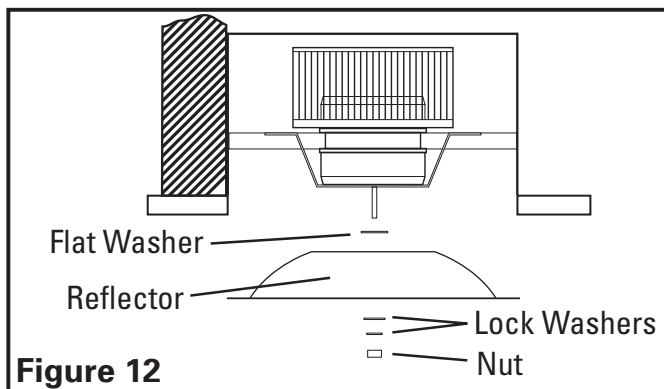

Figure 12
3. Reinstall the light reflector by securing in place on the mounting bolt with the flat washer then the reflector, two lock washers and reflector nut. Tighten nut fully (**Figure 12**).